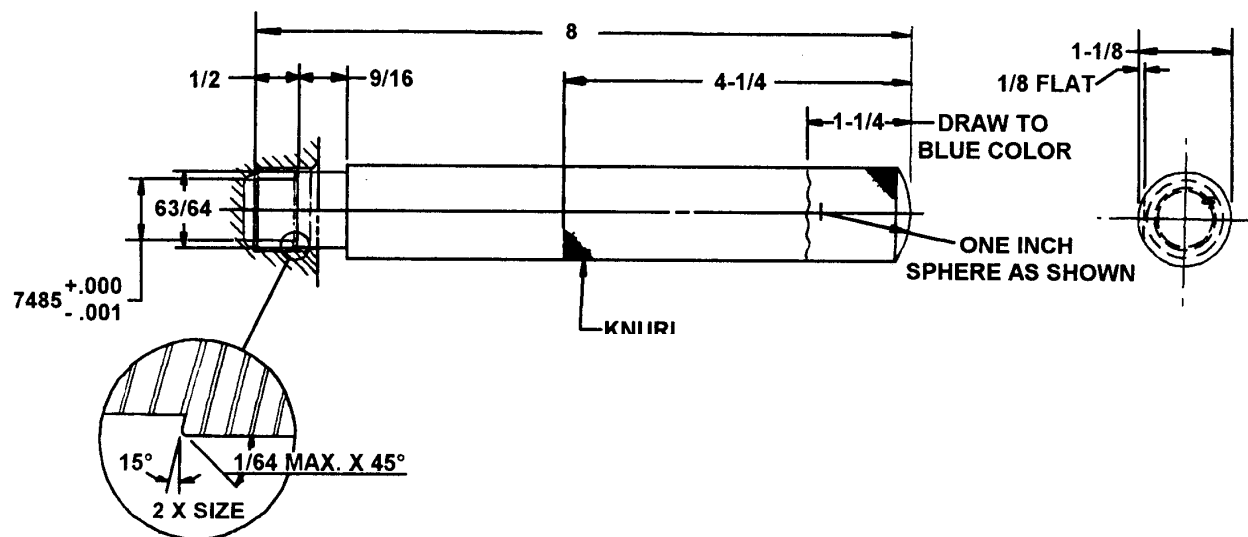

FIGURE 8. STARTER ADAPTER BUSHING INSTALLATION TOOL
5. Install bushing into crankcase bushing bore using a bushing driver equivalent to the one shown in Figure 8 below. Ensure that bushing is firmly seated against the stop surface of the bushing bore. A bushing driver may be locally manufactured from SAE 6150, AISI S7, or equivalent round stock tool steel using the dimensions provided in Figure 8 on page 11.